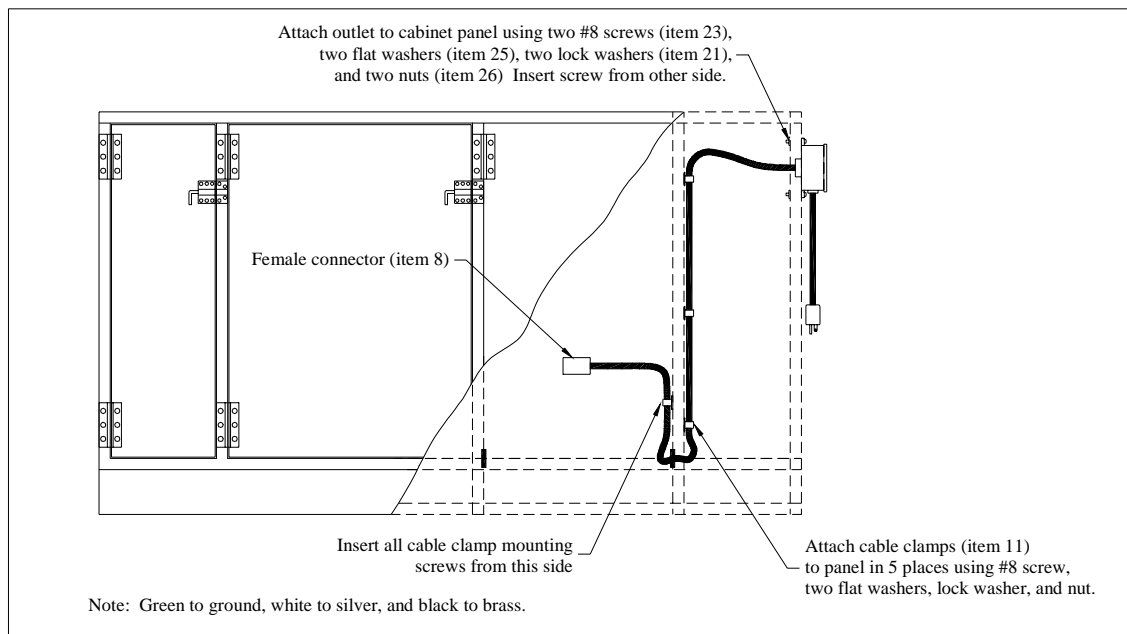

Figure 13. Attachment of feeder cable harness to storage cabinet.
1) Insert the long cable of the feeder cable harness assembly through the 1-3/8 inch hole in panel 3 of the storage cabinet (Figure 13).
2) Locate outlet box mounting holes using the outlet box (item 2) as a template and drill two 3/16 inch holes in panel 3.
5) Secure the 5-foot cable by using the cable clamps. Secure the cable clamps to panel 2 into the holes pre-drilled in step a. 2), using the #8 screws, flat washers, lock washers, and nuts. Ensure that the cable will not interfere with the operation of the storage cabinet drawer (Figure 13).
6) Attach the female connector (item 8) to the end of the 5-foot cable. Ensure green to ground, black to brass, and white to silver terminals (Figure 13).